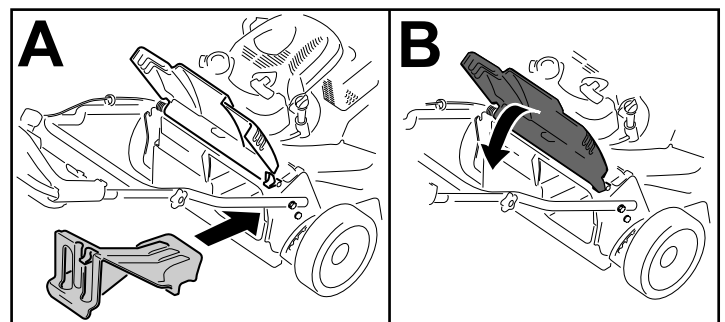

Figure 23
- If the rear-discharge plug is not installed, grip it by the handle, raise the rear door, and insert it into the rear-discharge chute until the latch locks into place; refer to Figure 23.
**Important:** Ensure that the rear-discharge plug is in place before you recycle the clippings (Figure 23).